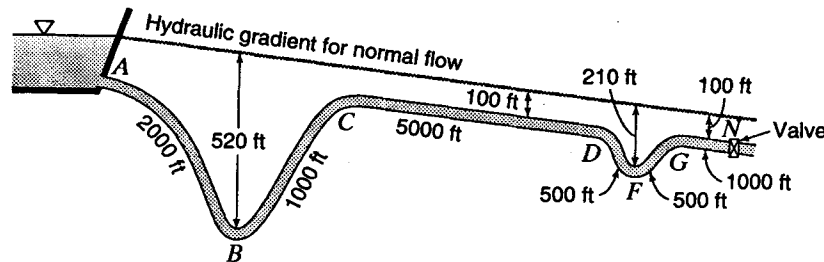

Figure P12.36
12.36 In Fig. P12.36 the total length of pipe is 10,000 ft, its diameter is 42 in, and its wall thickness is 0.89 in. Assume  $E = 32,000,000$  psi and  $E_v = 300,000$  psi. If the initial velocity for steady flow is 8 fps and the valve at G is partially closed so as to reduce the flow to half of the initial velocity in 3.6 sec, find (a) the maximum pressure rise due to the water hammer; (b) the location of the point of maximum total pressure.